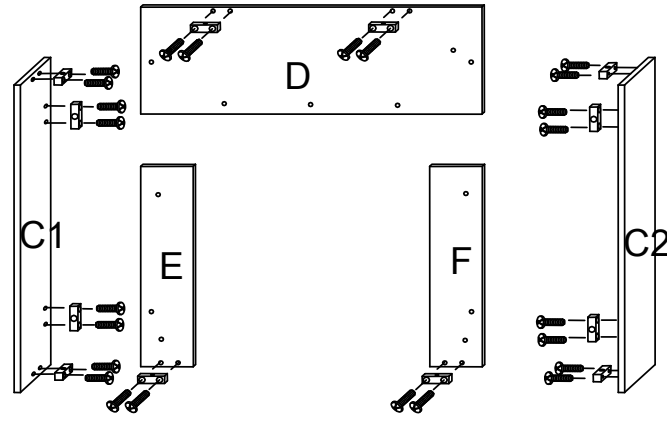

Figure 1
Attach all **PLASTIC CONNECTORS (S)** to the **PANELS (C1, C2, D, E and F)** as shown in Figure 1. (2 **KD SCREWS (U)** for each **PLASTIC CONNECTORS(S).**)